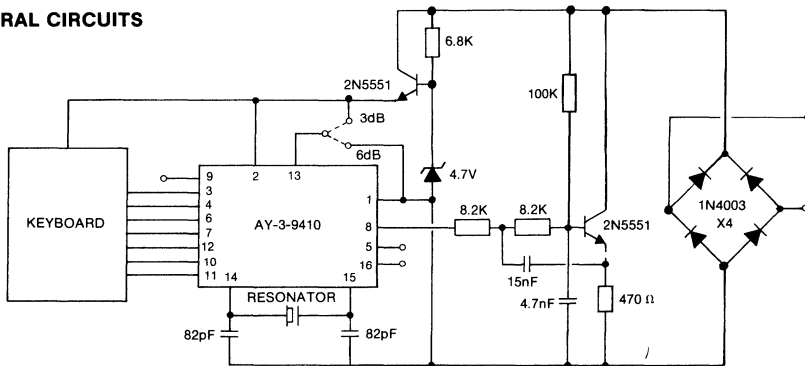

Fig.1a HIGH IMPEDANCE BUFFER
A low pass filter buffer amplifier is used to remove switching noise and interface the tones to the line. There is an option of either a low impedance or a high impedance output (see figs. 1a and 1b).
- 3.The output would be buffered to drive the line, the buffer can be arranged to have either a high impedance current output or a low impedance voltage output (See Figs.1a and 1b).